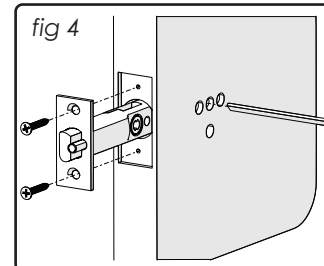

fig 4
- Fit the latch assembly with two of the wood screws and position the tailbar as shown in fig 4. Ensure that the bevelled edge of the latchbolt faces the door frame so the door can shut.